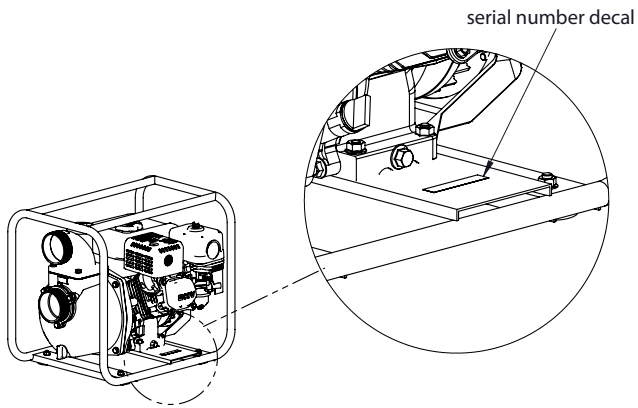

Figure 1
Record the model number and serial number in the space provided for easy reference (**see serial number location in figure 1**). Warranty is valid only if the completed registration is received by Earthquake within 30 days of purchase. You can register your warranty online by visiting [www.getearthquake.com](http://www.getearthquake.com). If you do not have a computer, call our customer service department at (800) 345-6007 Monday through Friday from 8 a.m. to 5 p.m. CST.